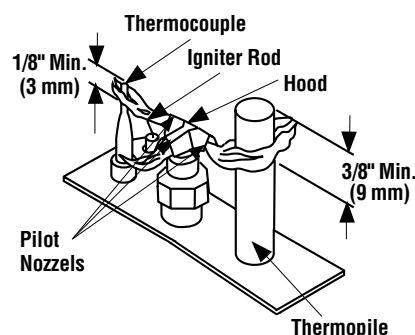

Figure 39 - Proper Pilot Flame Appearance
- ☐ Inspect the pilot system for proper flame (see **Figure 39**). NEVER ADJUST THE PILOT until after the gas pressure has been checked and the supply lines have been completely bled (this may take an hour or more when bleeding through the pilot). All pilots are checked and burned at the factory prior to shipment. The pilot adjustment screw is located below the ON/OFF/PILOT control knob. Remove the pilot adjusting cover with a flat-bladed screwdriver to access the pilot adjusting screw. Adjust the pilot screw to properly size the flames. The flames should directly contact the thermopile and extend across the main burner ports. Be careful not to back the screw out of its threads. Replace the cover and check for gas leaks using a gas leak test solution.